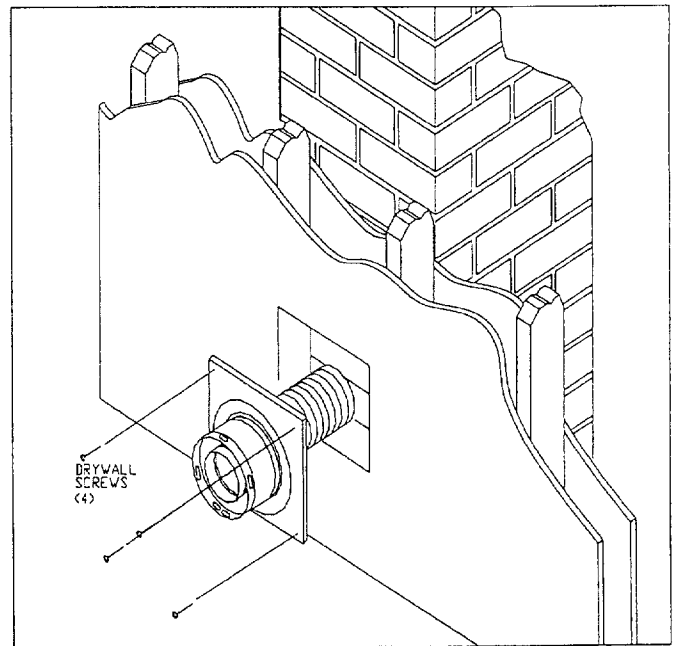

FIG 22
2. --At the center point of the penetration cut a 9¼" – 10" diameter hole in the masonry. This allows the black Conversion Adapter to fit inside the masonry. See Figure 14. **If you have a concealed masonry chimney, you may have to cut a clear 10" square opening in the interior-preceding wall and only need a 8" diameter opening in the masonry. Some walls may have to be re-framed around the 10" opening. Center the 10" square opening around the 8" round opening. The square opening provides the right amount of clearance to combustibles when cut in the proper location. See Figure 22.